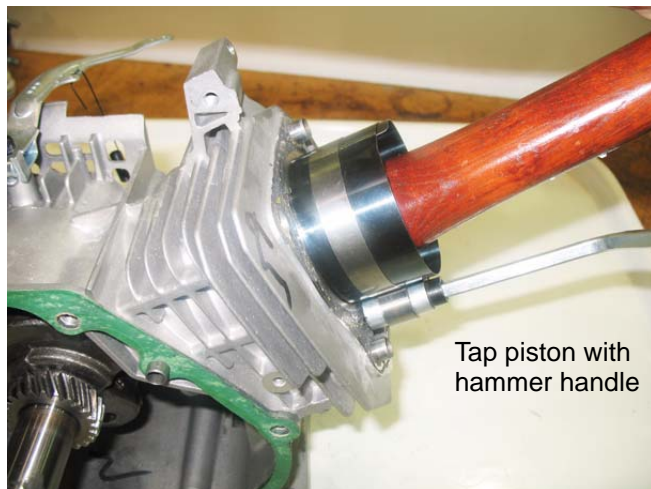

Figure 10.20
- 4d. Tap the piston through the ring compressor into the cylinder using a wooden hammer handle. See Figure 10.20.